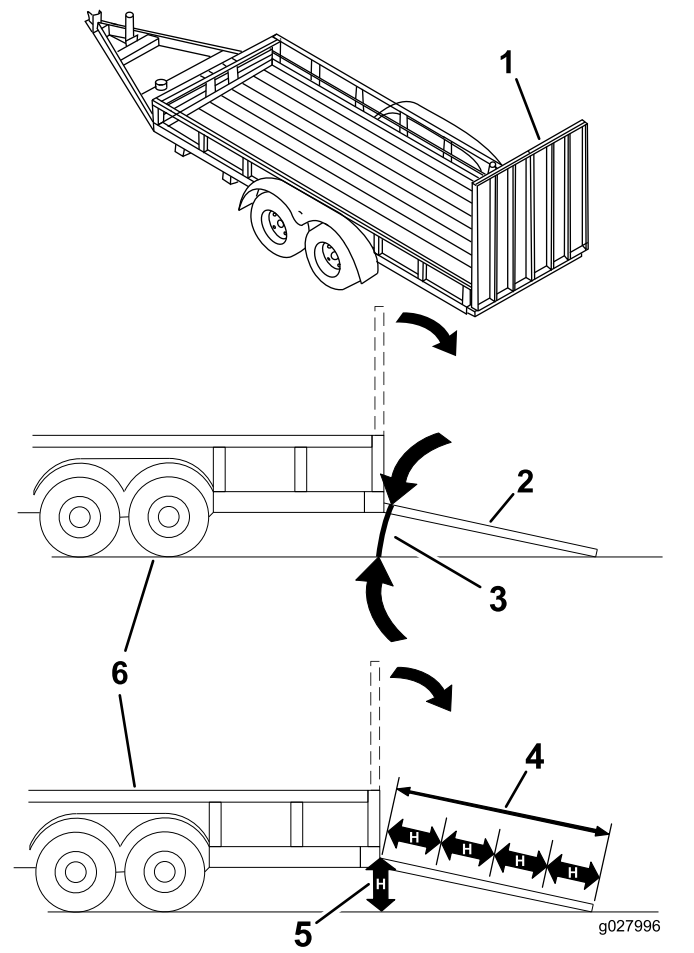

Figure 14
Loading a machine onto a trailer or truck increases the possibility of tip-over and could cause serious injury or death (Figure 14).
3. Lower the ramp, ensuring that the angle between the ramp and the ground does not exceed 12 degrees (Figure 14).
1. Lower the ramp, ensuring that the angle between the ramp and the ground does not exceed 12 degrees (Figure 14).